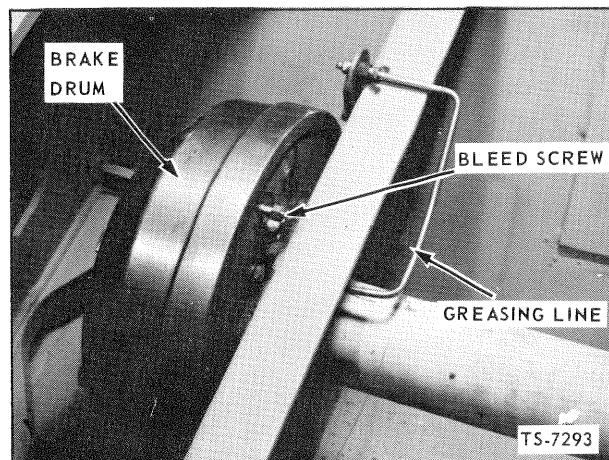

Fig. 15 Bleed the Brake
2. With the aid of a helper, open the bleed screw on the cylinder in Fig. 15 and depress the brake pedal to expel any air and fluid from the lines.